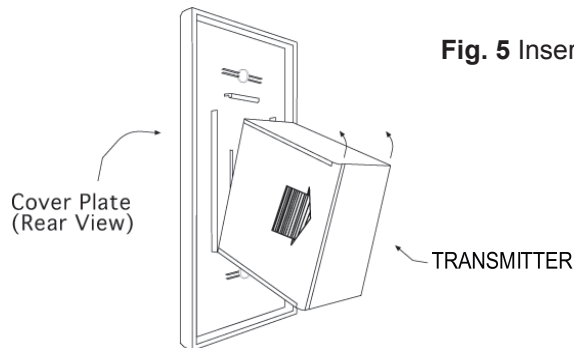

Fig. 6 Securing transmitter to face plate.
Step 5: Secure the transmitter into the face plate by snapping it into place. Fig 6.